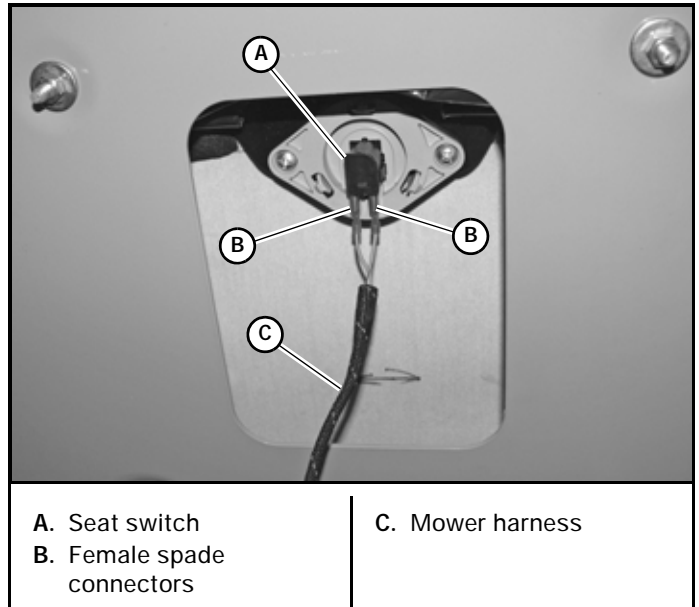

Figure 4-16
- Bypass the seat switch by connecting the two mower harness female spade connectors together. Figure 4-16 & Figure 4-17
- Reconnect them to the seat switch. This must be completed so that the safety circuit is functioning properly. Figure 4-16 and Figure 4-17